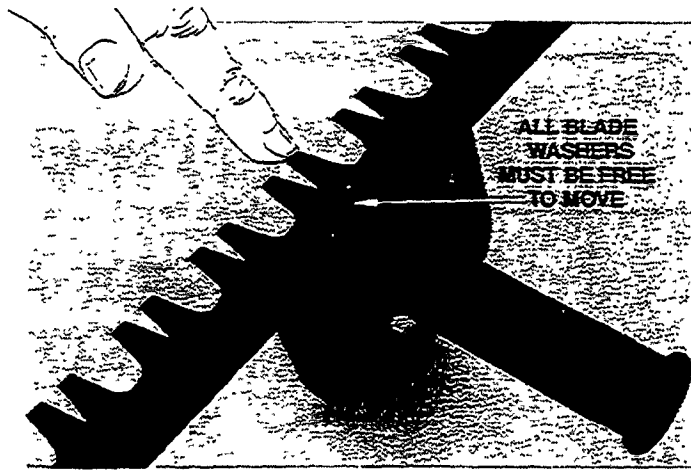

Figure 1
- Adjust the No. 3 blade bolt so that the blade washer can move slightly when its acorn nut is tightened. (Figure 1).
- Tighten all the blade bolts on the bottom of the cutter bar firmly. Then, loosen each bolt approx. 1/2 turn or until the blade washer can be slightly turned. (**Figure 1**).
- Re-tighten the acorn nuts, while holding the blade bolts and recheck the blade washers for the correct looseness. If the washer looseness has changed, the blade bolt must be re-adjusted. (**Figure 1**).